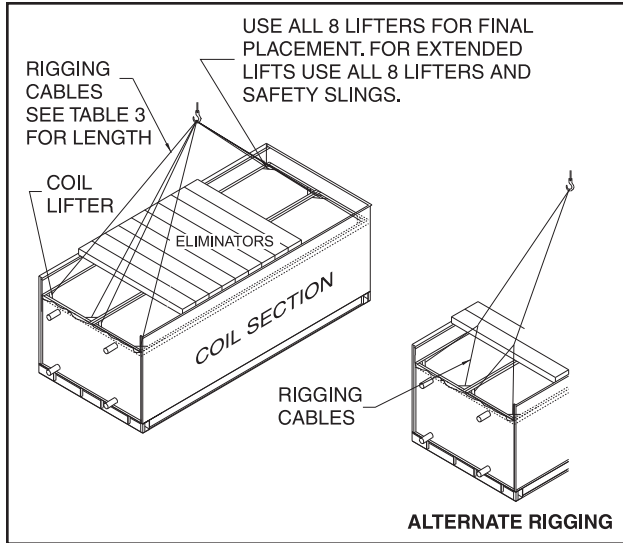
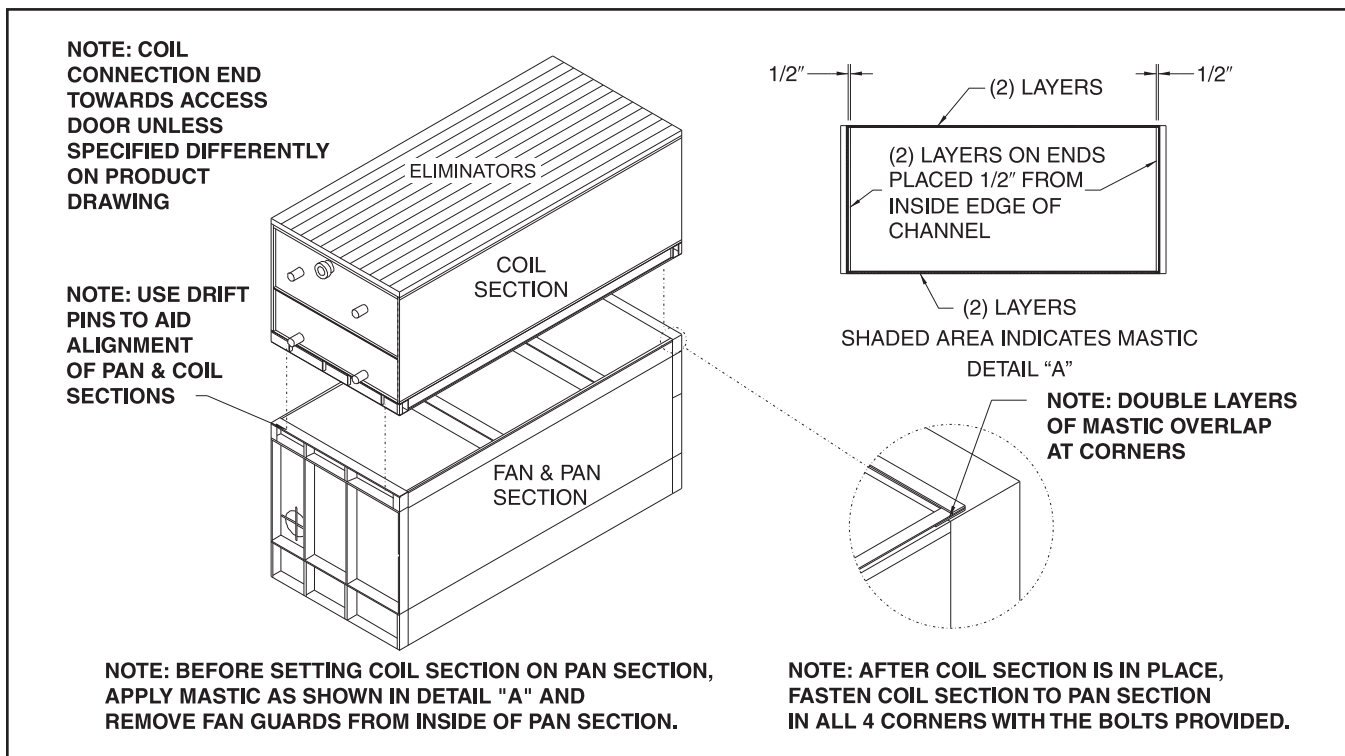

Figure 7c - XLP Coil Section Rigging
Figure 8 - XLP Mastic Location And Unit Assembly
2. Take mastic from parts box and place on the top of the fan & pan section as shown in Figure 8. Be sure to apply two layers of mastic across each end of the unit as shown.
3. Lower the coil section to the fan & pan section with rigging attached to all eight lifters. For extended lifts, use lifters and safety slings (Figure 7c). Use drift pins in bolt holes to ensure proper alignment. See Figure 8.